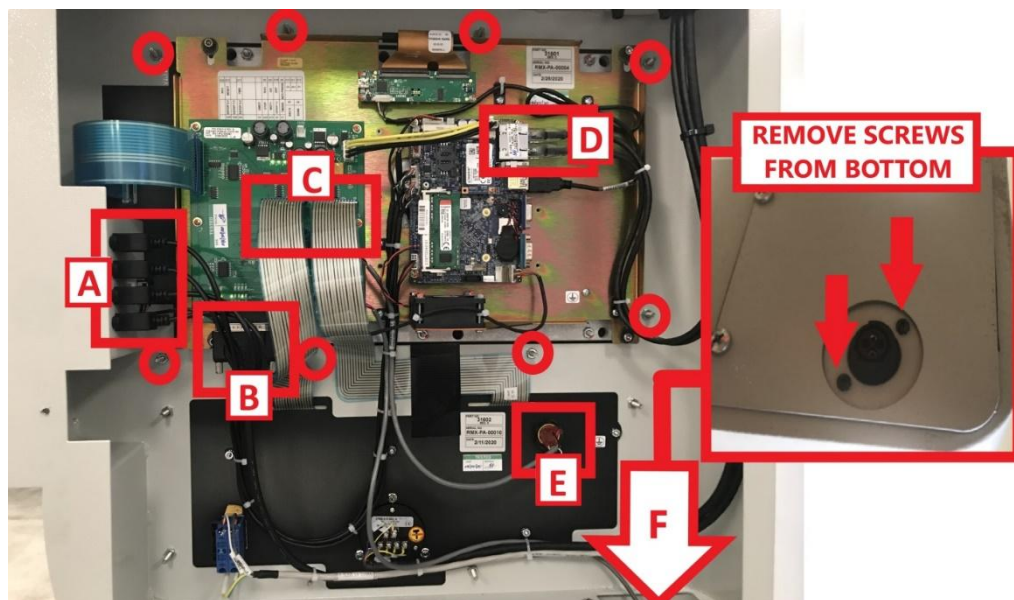

Figure 5.1.2.1 - Panel Cabling
4. Support programming panel from the front and remove the 8 bolts from the programming panel perimeter and remove the panel from the front of the pendant as shown in figure 5.1.2.1.
5. Replace programming panel, replace the bolts and tighten just past finger tight, connect the data wires listed in step 3 and shown in figure 5.1.2.1. Replace rear cover and tighten bolts.